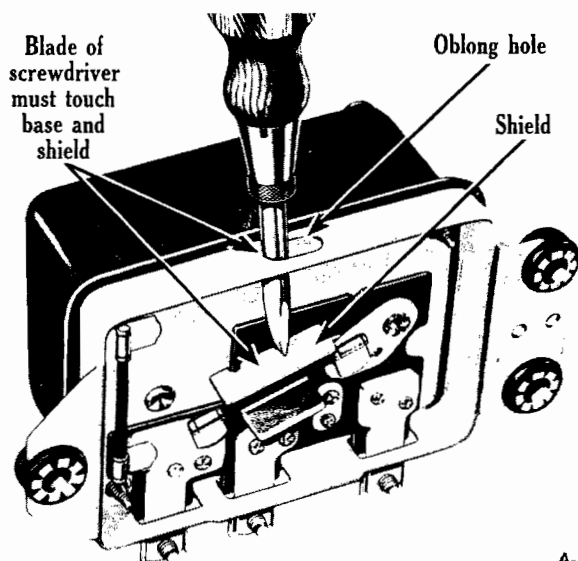

Fig. 12 - Quick method for cutting out voltage regulator in order to check current regulator setting.
1. **QUICK CHECK METHOD--**Insert screwdriver blade through oblong hole in base of regulator until contact is made with shield around resistor (Fig. 12). Be sure to keep screwdriver at right angles to base, and hold firmly in place during check so that blade touches regulator base and shield at same time. This temporarily cuts out voltage regulator unit. Turn on lights and accessories to prevent high voltage during the test.